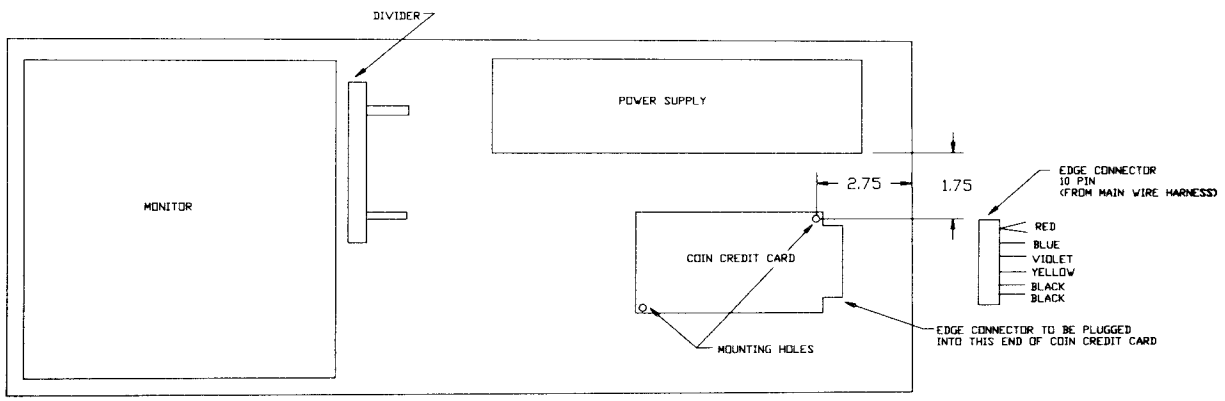

FIGURE 3
6. If your component tray is a newer tray and does not have two holes for mounting PC board skip directions 6 and 7. (Figure 3) Using the coin credit card, as a template mark the two PC board support holes on component tray bottom. See Figure 3 for direction of board. Make sure the board will not come in contact with the component tray mounting screws and washers.
9. Snap board in place and plug into new main harness. (See Figure 3 for position of connector) *Make sure the board is plugged into the correct end of the harness.*